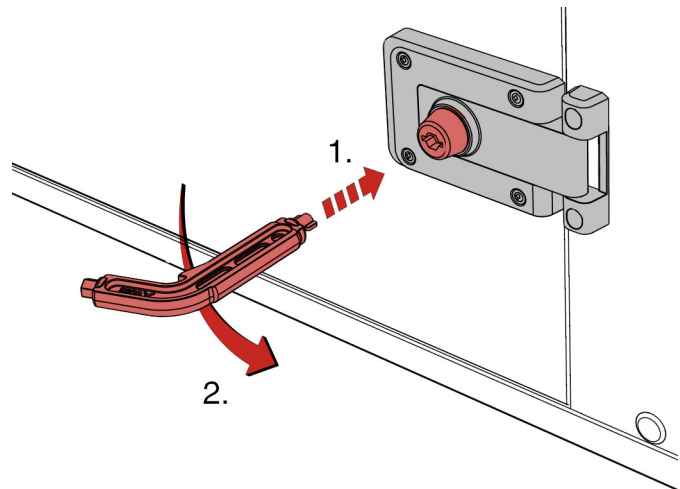

Fig. 50: Open lock
- ▶ Turn the key or the operating lever 90° anti-clockwise (Fig. 50).